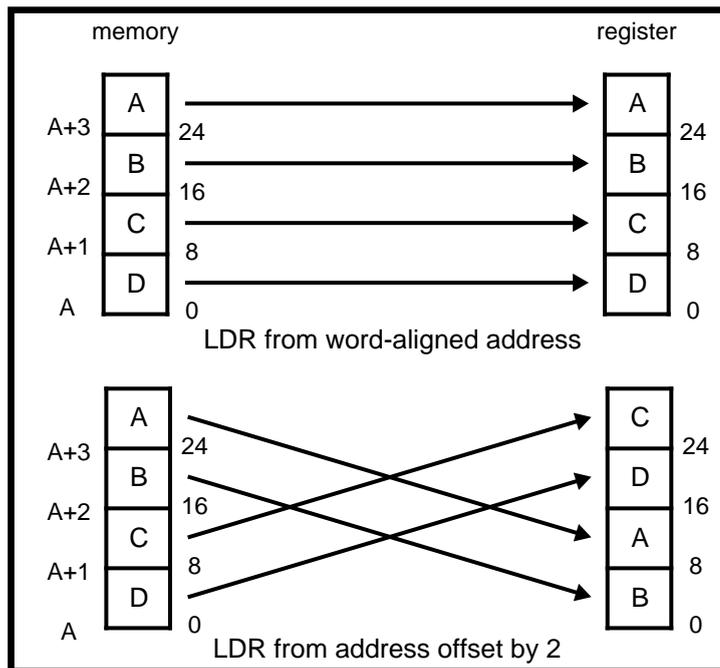

Figure 4-16: Little-endian offset addressing
- Word load (LDR) Any non word-aligned address will cause the data read to be rotated into the register so that the addressed byte occupies bits 0 to 7. This means that halfwords accessed at offsets 0 and 2 from the word boundary will be correctly loaded into bits 0 through 15 of the register. Two shift operations are then required to clear or to sign extend the upper 16 bits. This is illustrated in **Figure 4-16: Little-endian offset addressing** on page 4-28.